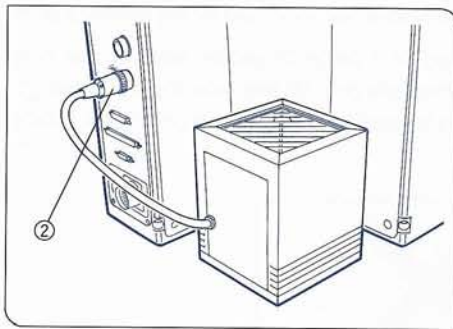

Fig. 11
3. Plug the connecting cord into the power outlet ② marked ⚡. Make sure the connection is tight. (Fig. 11)